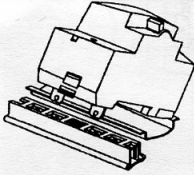

Fig 5.1
- Clip the desired RCCB onto the mounting rail and push fully home. (Fig 5.1)